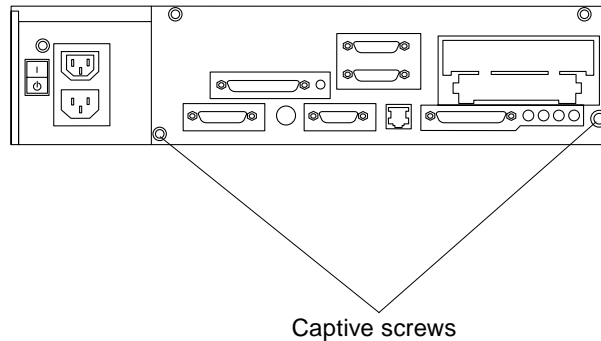

Figure 3-4 Captive Screws on the Back Panel
5. Tighten the two captive screws securing the system board to the chassis (Figure 3-4).